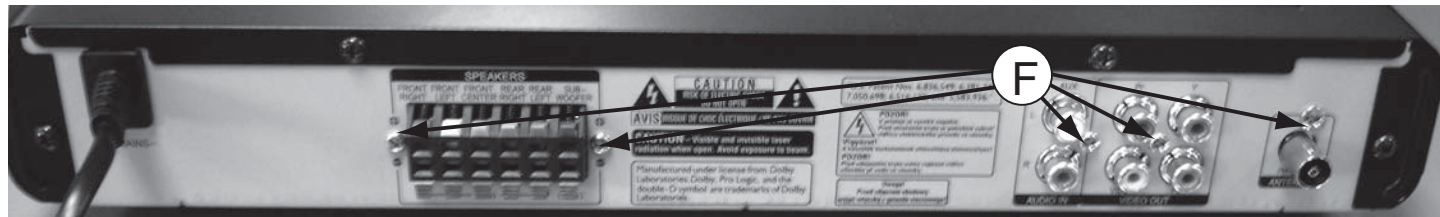

Figure 9
- 2) Loosen 5 screws " F " at the back panel as shown in figure 9.